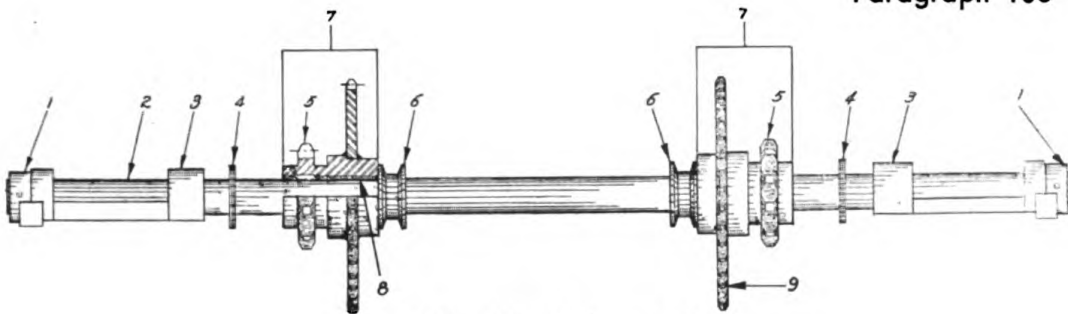
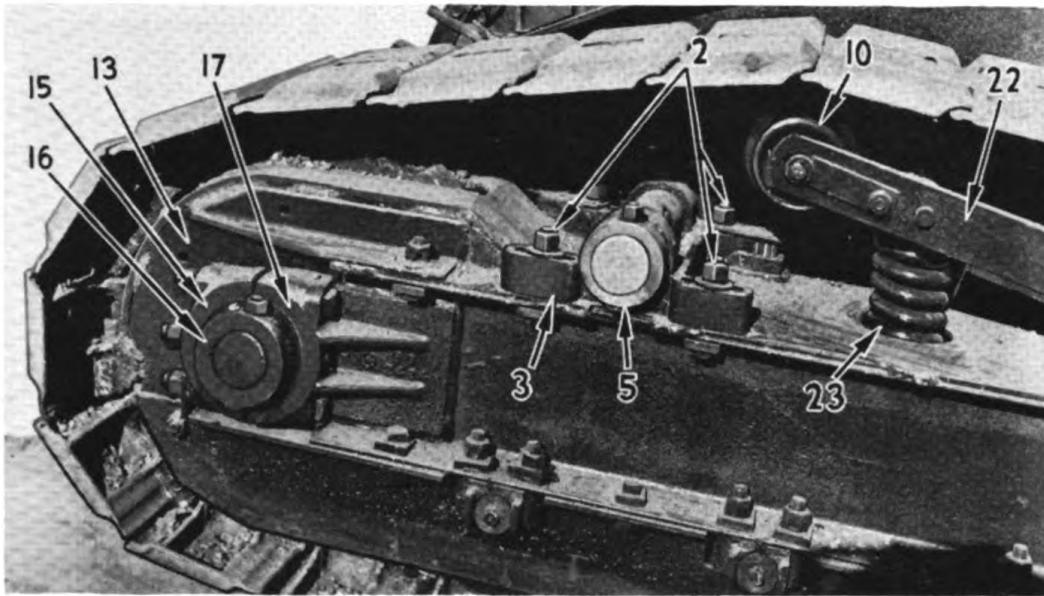
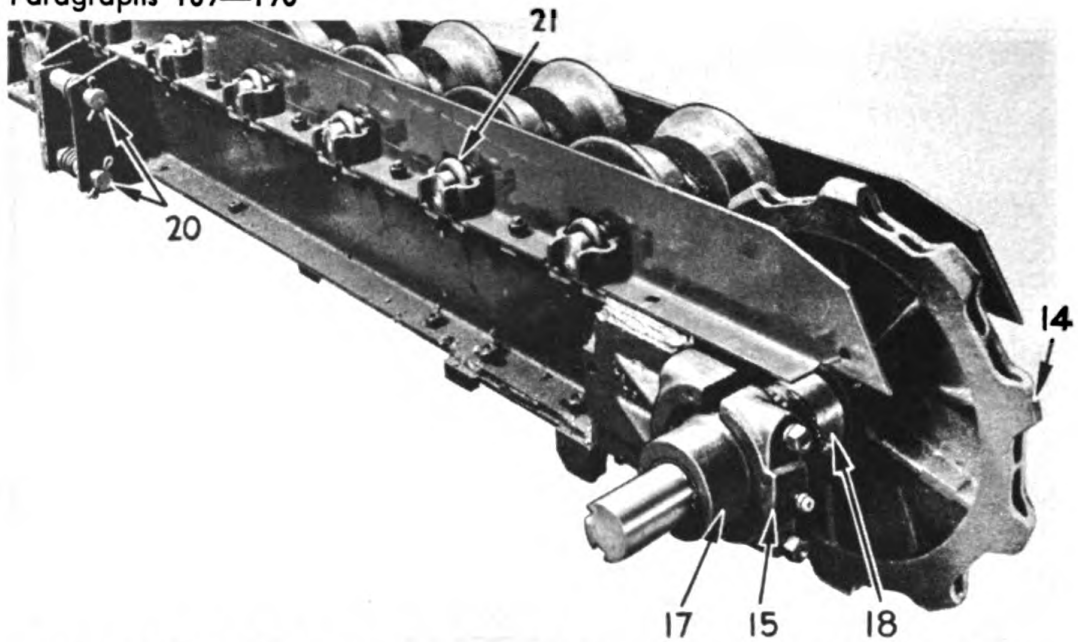
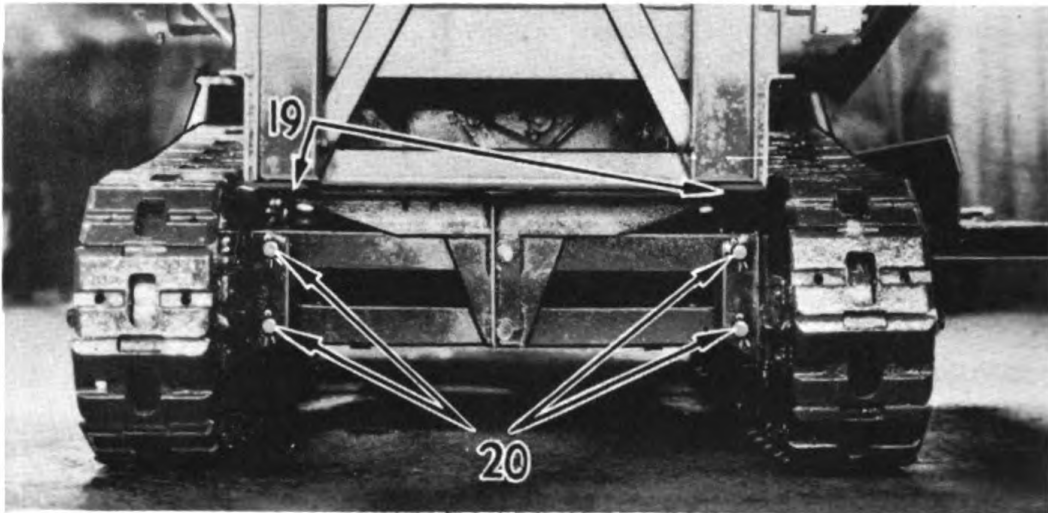

Figure 111. Oscillating shaft.
Figure 114. Crawler bearings.
Figure 115. Crawler frame, turned upside down to show tread support idlers.
Figure 117. Removal of crawler assembly.
To remove the shaft proceed as follows: (a) Raise conveyor frame to horizontal position. (b) Uncouple chains (34), Figure 102 and chains (1), Figure 113. Now remove the four bolts (2) in each of the crawler pivot brackets (3), Figure 114. (c) Use two jacks under housing at (4), Figure 113, and raise the loader just enough to take the weight of the loader off the crawlers on each side. (d) Now remove pins from collars (1), Figure 111 and loosen set screw in structural bearings of substructure, and collars (6). The shaft is now free to slide out releasing the sprocket clusters (5).
The crawler treads (4e) Figure 96 are parted by the following steps: Loosen bolts (28) Figure 112 on sides of the crawler, remove bolts (29) and lock plates. Loosen takeup shaft (11), and force back towards drive end, and remove T head pin in crawler tread, above spring idler (10), Figure 114.
When any repairs are necessary on the crawler take-up shaft the unit may be disassembled by the following steps: (a) Follow instructions under "Crawler Tread" and lay the treads away from the traction wheel which is on this shaft. Use jacks at (19), Figure 117, to take the weight of the loader off this shaft. (b) Remove covers (24) Figure 112, takeup bolts (12), lock bolts (26), and the shaft is free to slide out of the takeup bearings and bushed traction wheel.
The crawler drive shaft may be removed by the following disassembly operations. Raise the conveyor feeding end to the maximum height. (a) Uncouple chain (1), Figure 113 and remove sprocket (8) which is double keyed and set screwed to the shaft, remove shield (9). (b) Follow instructions under "Crawler Tread" and lay the treads back away from the crawler sprocket on this shaft. Use a jack at (4), to take the weight of the machine and raise the crawler sprocket (14), Figure 115, clear off the track shoes at the bottom. (c) Remove covers (13), Figure 114 and bearing caps (15). This shaft may now be taken out of the crawler frame. (d) To dismantle the shaft, take off collar (16), slide off bearing (17) Figure 115, remove the washer between bearing and sprocket (14), collar (18) may be removed after bearing on opposite side of frame is removed. Note that the longer of these collars fits in place between the sprocket and the hub of the inside bearing. Sprocket (14) is double keyed and set screwed to the drive shaft.
The crawler oscillating bearings are exposed when the tread is parted. Remove nuts of bolts (2) Figure 114. Remove caps covering shims in rear of bearings (3). Shift crawler towards feeding end by shifting shims. Drive chain should have about 1" slack. Replace shim covers and tighten all bolts. Adjust the crawler treads as instructed under "Crawler Tread Adjustment."
- (d) Remove U bolts (21), Figure 115 if guard plates are removed tread roller, shaft, keepers and spacer washers will drop out. With guards in place shaft will have to be pulled out to free the assembly.
- (b) Jack up the entire loader with jacks at points (4), Figure 113, and at (19), Figure 117. The crawler treads may be removed separately, to reduce the total crawler unit weight, if so desired, as per instructions under "Crawler Treads." As the weight of the loader falls on jacks at (19, remove pins (20) in oscillating axle. Remove bolts (2) Figure 114.